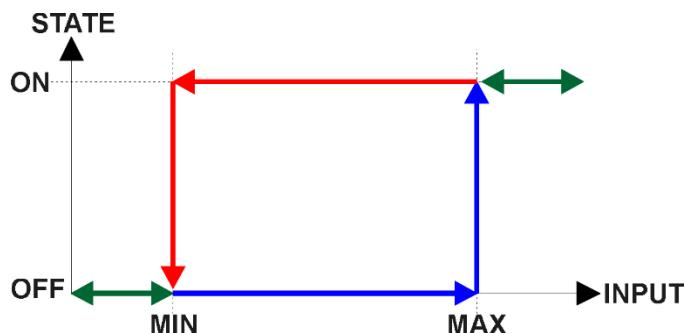

Figure 7 – Analog Input Reads as Digital
Should a different linear relationship between what is measured versus what is sent to the CANopen bus be desired, objects 6132h, 7121h and 7123h can be changed. The linear relationship profile is shown in Figure 7 below.
There is another type of 'digital' input that can be selected when 6112h is set to 20 = Analog On/Off. However, in this case, the input is still configured as an analog input, and therefore the objects from the Analog Input (AI) block are applied instead of those discussed above. Here, objects 2020h, 2030h and 6030h are ignored, and 6000h is written as per the logic shown in Figure 7. In this case, the MIN parameter is set by object 7120h **AI Scaling 1 FV**, and the MAX is set by 7122h **AI Scaling 2 FV**. For all other operating modes, object 6000h will always be zero.